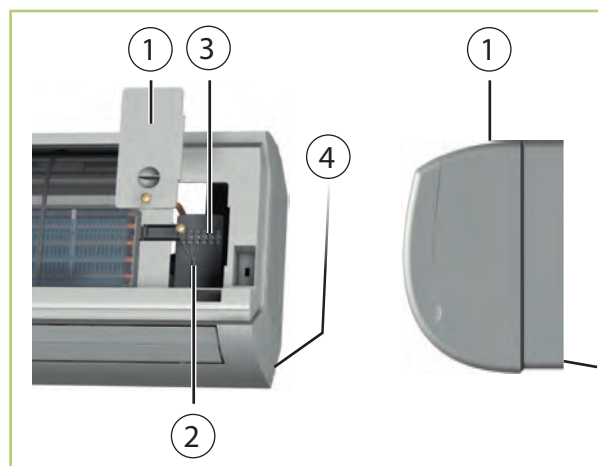

Fig. 42: Connecting the indoor unit
2. ➤ Remove the covers on the right-hand side (Fig. 42).
4. ➤ Connect the customer-laid control line to the terminals (Fig. 42).